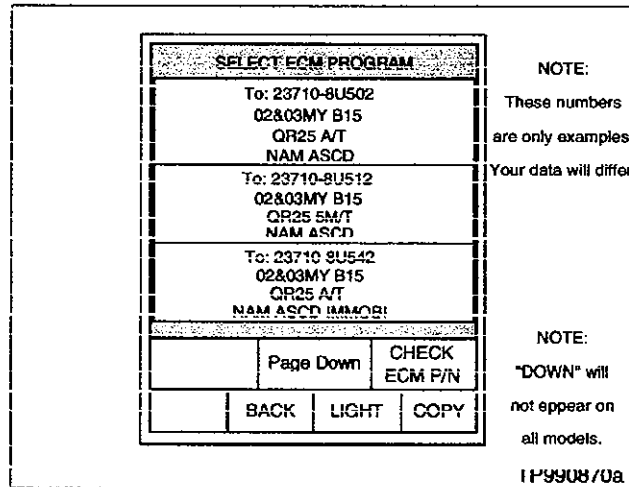

Figure C9
17. Now go to the CONSUL I-II screen and select the correct ECM program to install from the choices on the screen (see Figure C9). Refer to the new ECM P/N note in the "number match" note you made in step 16.